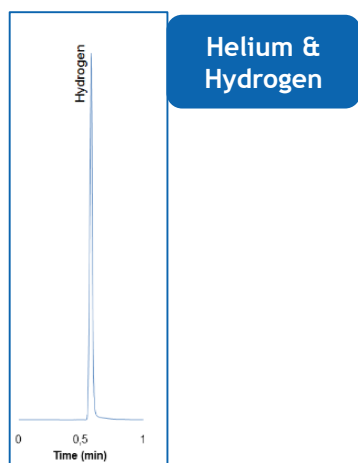

Figure 8: Hydrogen analysis
1. The first channel determines Helium and Hydrogen, using TCD for detection (figure 8).